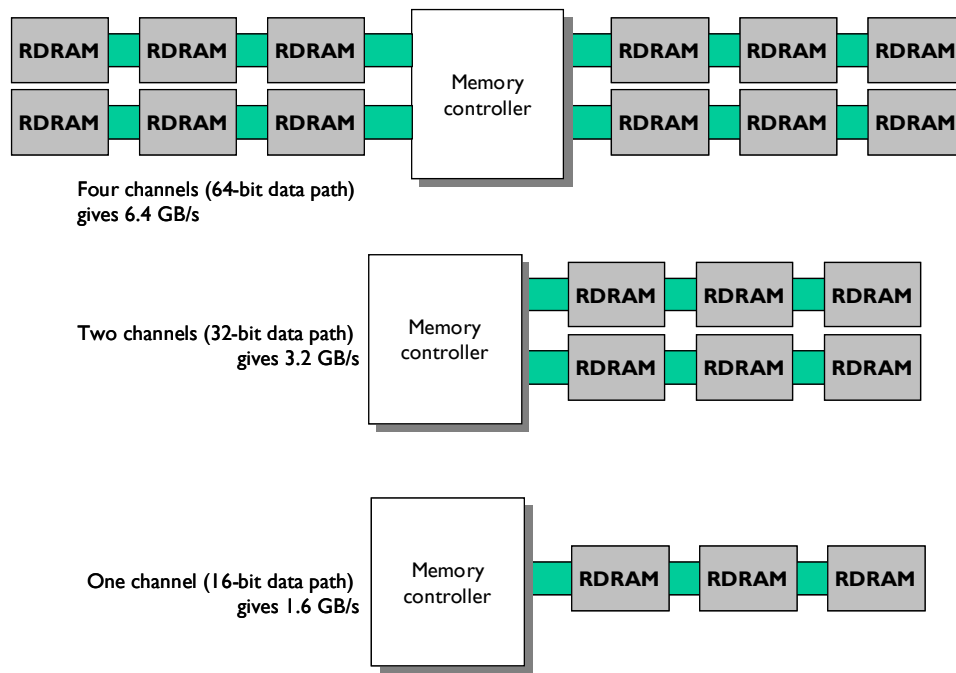

Figure Q2.1 RDRAM configurations
- Show method of using clocks to and from the master (top diagram in Figure Q2.1) [2].
- Show basic diagram of clock signals and how they are routed (bottom diagram in Figure Q2.1) [2].